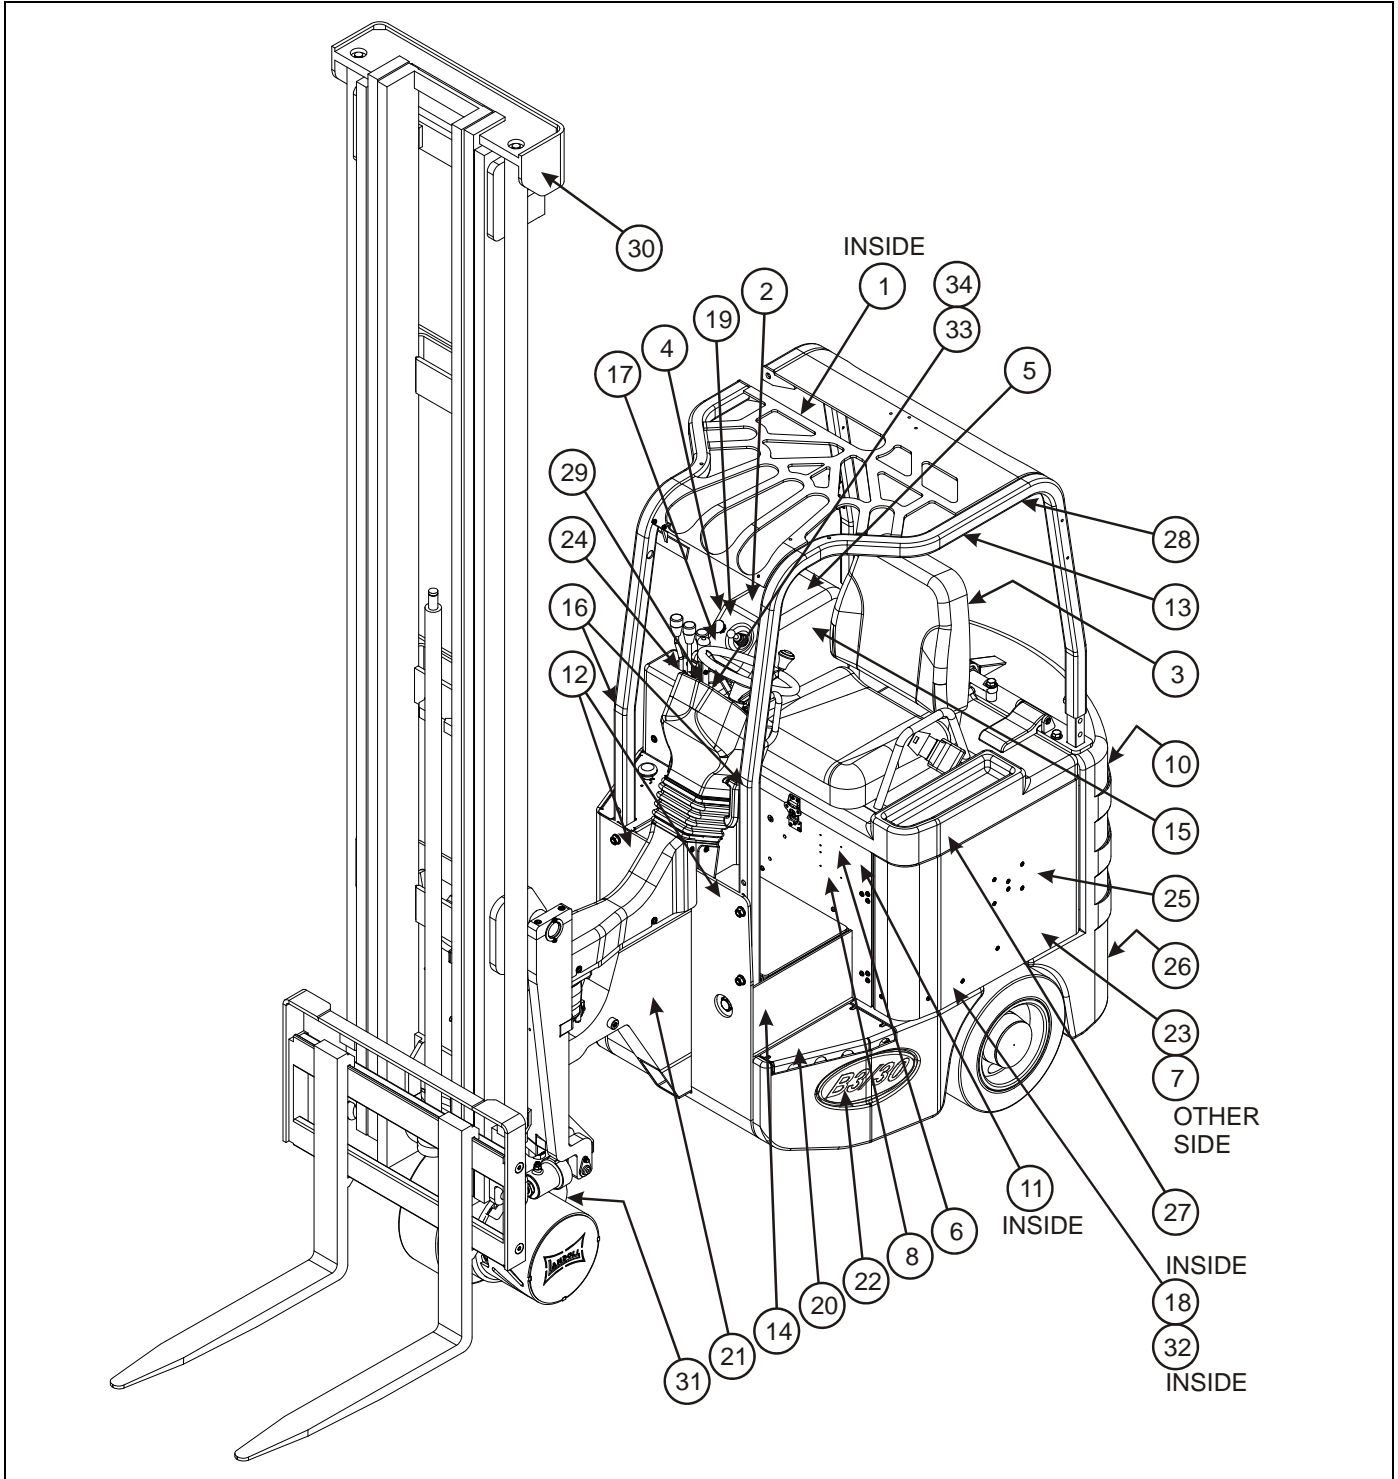
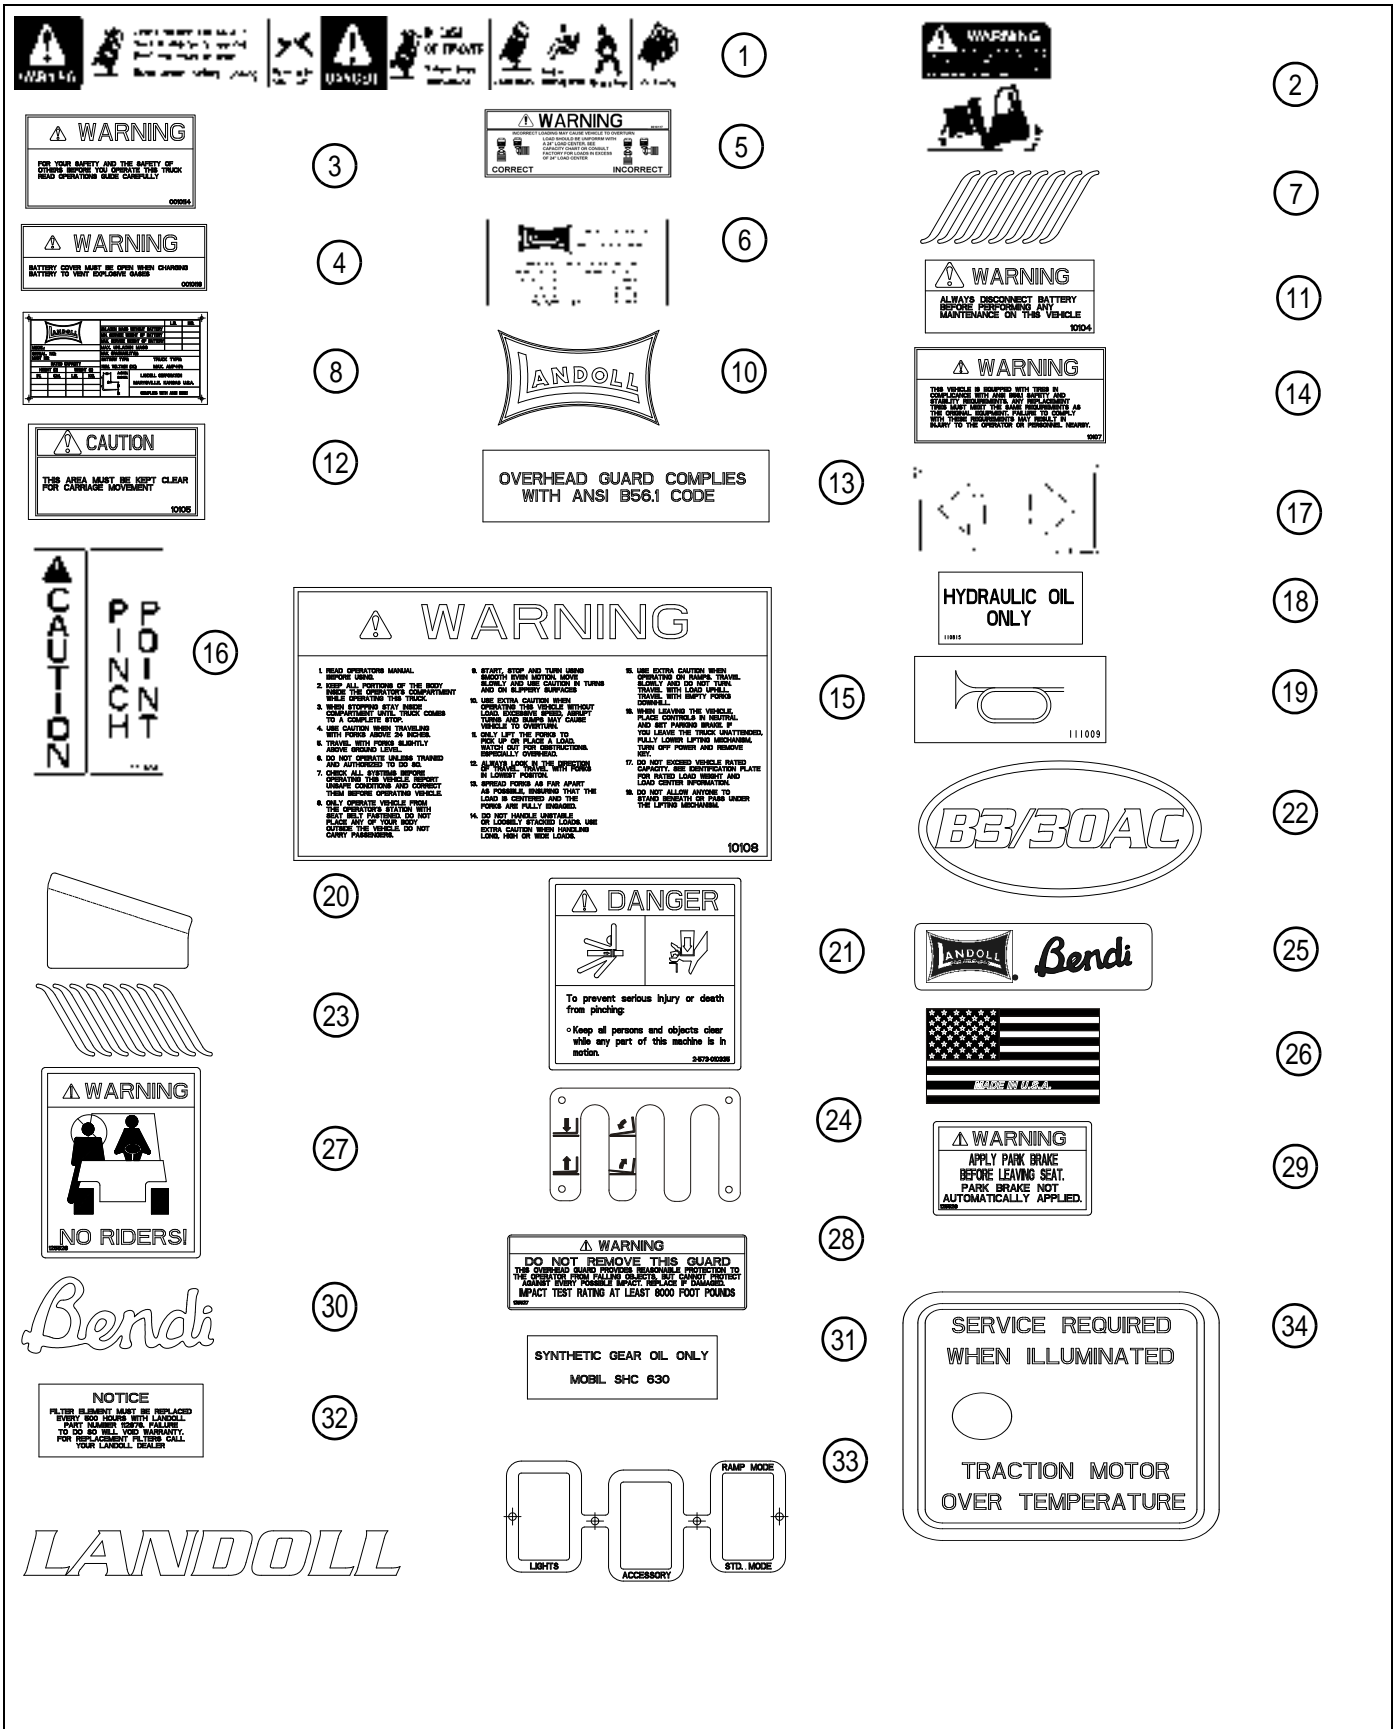

Figure 1-1: Bendi B3/30 AC Forklift Decal Placement
Figure 1-2: Decals
You will notice that most illustrations have an identifying Figure number below the illustration frame. As an example ... "See Figure 1.1".
The location of each machine sign on the Bendi B3/30 AC forklift is illustrated on the next page. See Figure 1-1. A list of each machine decal is on the following page, See Figure 1-2.
- Never exceed the truck's maximum lifting capacity. Refer to "Technical Specifications" on page 5-11 and the identification plate located right and front of the seat. See Figure 1-1.